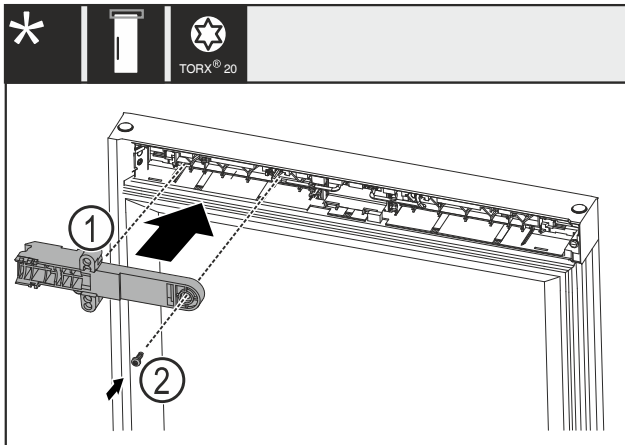

Fig. 22
- Turn the lock holder Fig. 22 (1) by 180° and attach on the opposite side.
- Fasten the lock retainer Fig. 22 (1) with a screw Fig. 22 (2).